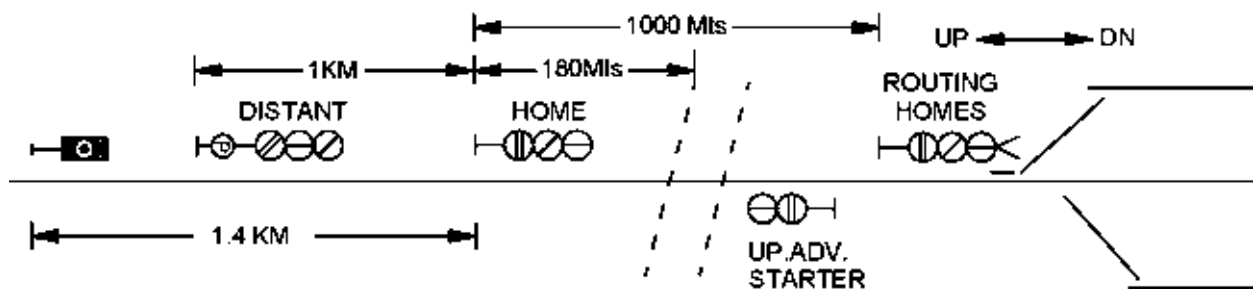

Fig.18.12 (i)
- (i) But if the L.C gate is little away from the down Home signal say less than a train length (approx. 300 to 400 Mts) it is better to provide the Home Signal at 180 Mts in rear of the gate and a routing Home signal near the points as shown in the Fig. Below Fig. 18.12 (i).